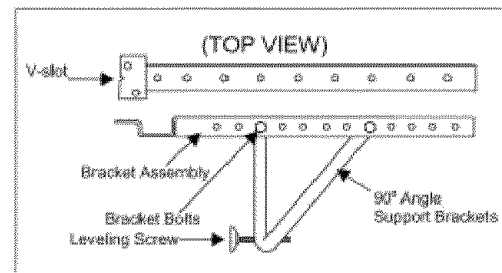

Fig. 5
A. Attach the **bracket assembly** to **90° angle support brackets** (Fig. 5) using (2) 1 1/2" bolts